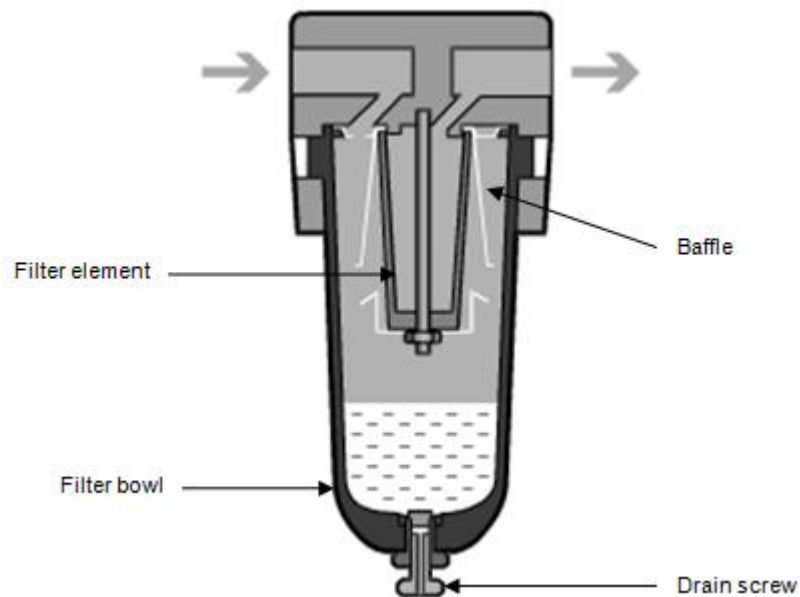

FIG 4.
A. The air filter consist of the following components: (Fig 4)